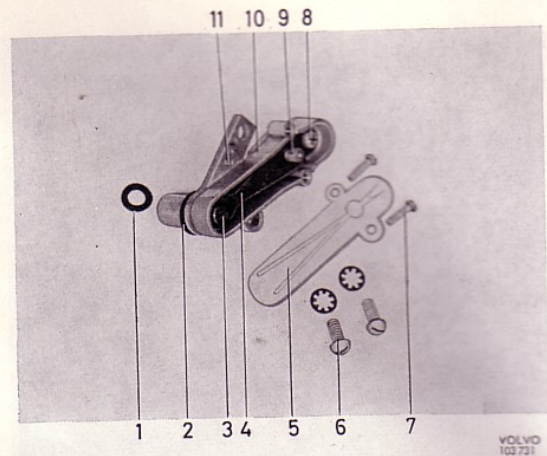

Fig. 100 Temperature compensator
3. Should there be a powerful drop in the idling speed during idling for a lengthy period, especially when the weather is warm, check the function of the temperature compensator by removing the plastic cover and pressing in the valve (3, Fig. 100). This should move under very light pressure and return to its position without jamming. This applies at a temperature above 20° C (70° F). The valve starts opening at 10° C (50° F).
The temperature compensator is replaced complete. It is removed from the carburettor by unscrewing the screws (6, Fig. 100). Take out the
N.B. The temperature compensator is marked "120°" for the B 20 A engine and "60°" for the B 20 B engine (see 11, Fig. 100).